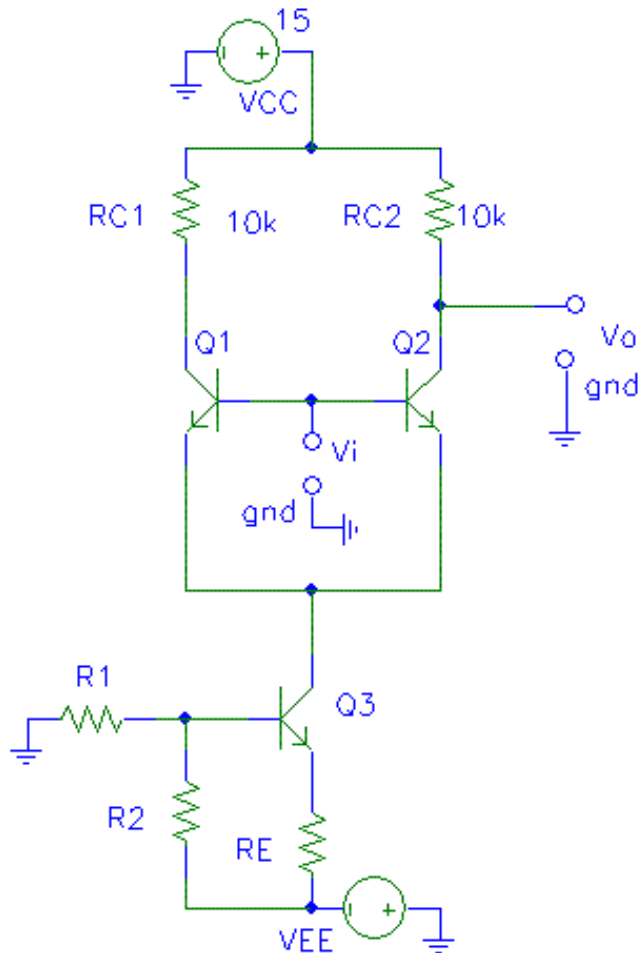

Figure 2
1.  $V_{EE} = -10$  volts. If  $R_E$  is (a) 1 kW or (b) 4 kW assuming very small base current for Q3 in figure 2, choose two suitable sets of values for R1, R2. Make sure that the current through R1 and R2 is 1 mA or higher.
3. The maximum instantaneous common mode voltage which may be applied to the differential amplifier of figure 2 is limited by the saturation on Q1 and Q2. The minimum common mode voltage is limited by the saturation of Q3. Calculate the allowed common mode voltage range for both values of  $R_E$  chosen in question 3. Assume  $v_{CE}(\text{SAT}) = 0.2$  V and  $v_{BE}(\text{SAT}) = 0.7$  V. The minimum (most negative) common mode voltage may also be limited by the fact that  $V_C$  cannot go higher than  $V_{CC}$ . For large common mode gain this may happen before Q3 saturates.